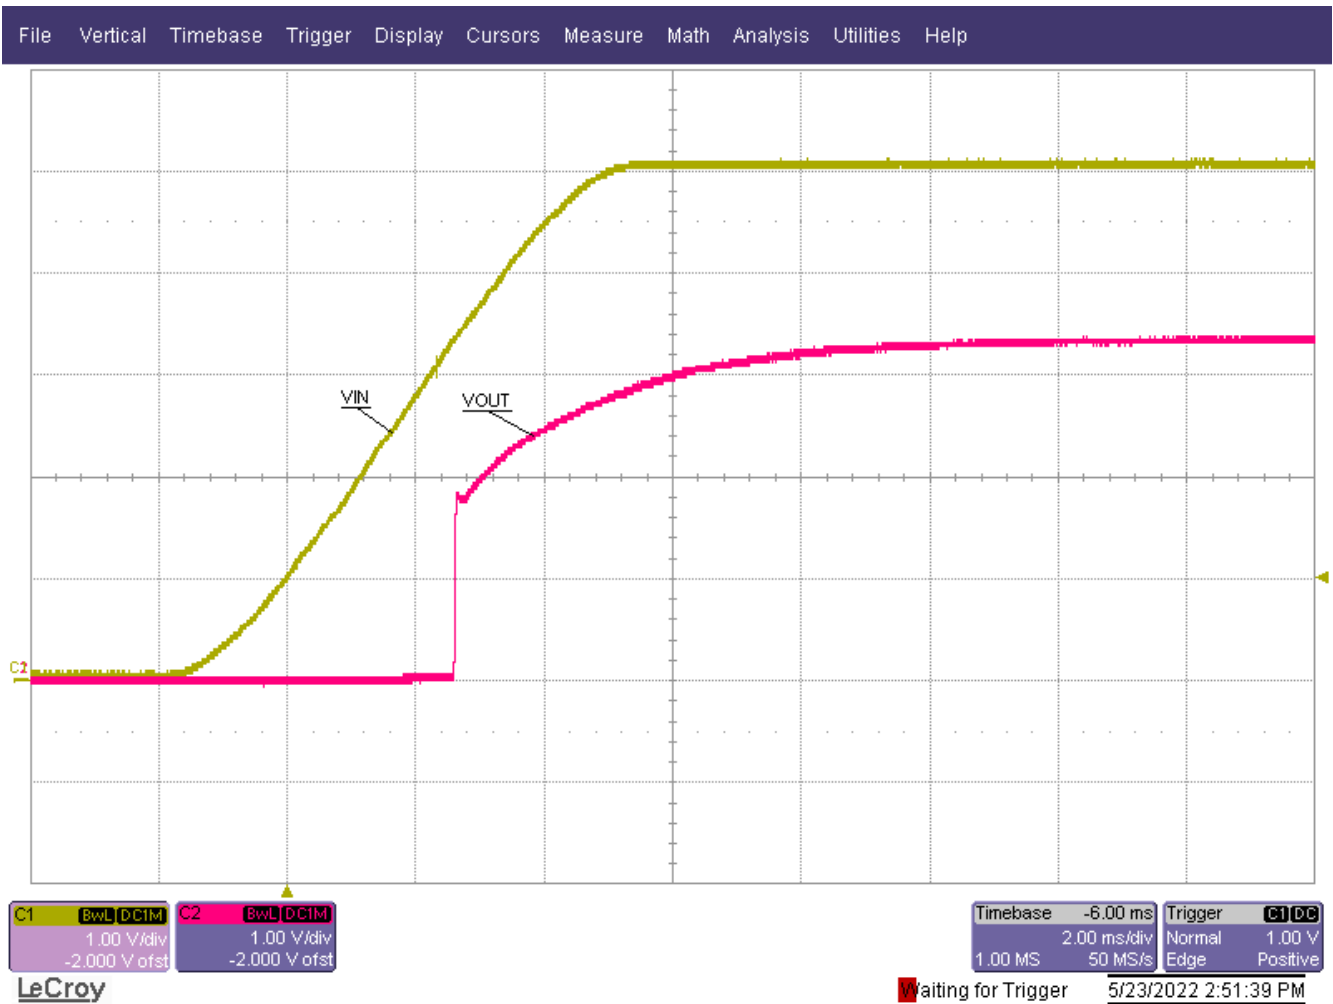

Figure 3-1. TPS7B4255EVM-062 Turn-On
Alternatively, by connecting an external function generator to TP2 (EN) and a nearby GND post (J9), the user can enable or disable the TPS7B84-Q1 LDO after VIN is applied. Figure 3-1 illustrates the result of the TPS7B4255EVM-062 during turn-on. Jumper J14 has a shunt to connect EN of the TPS7B84-Q1 to VIN to enable the device for this turn-on plot.